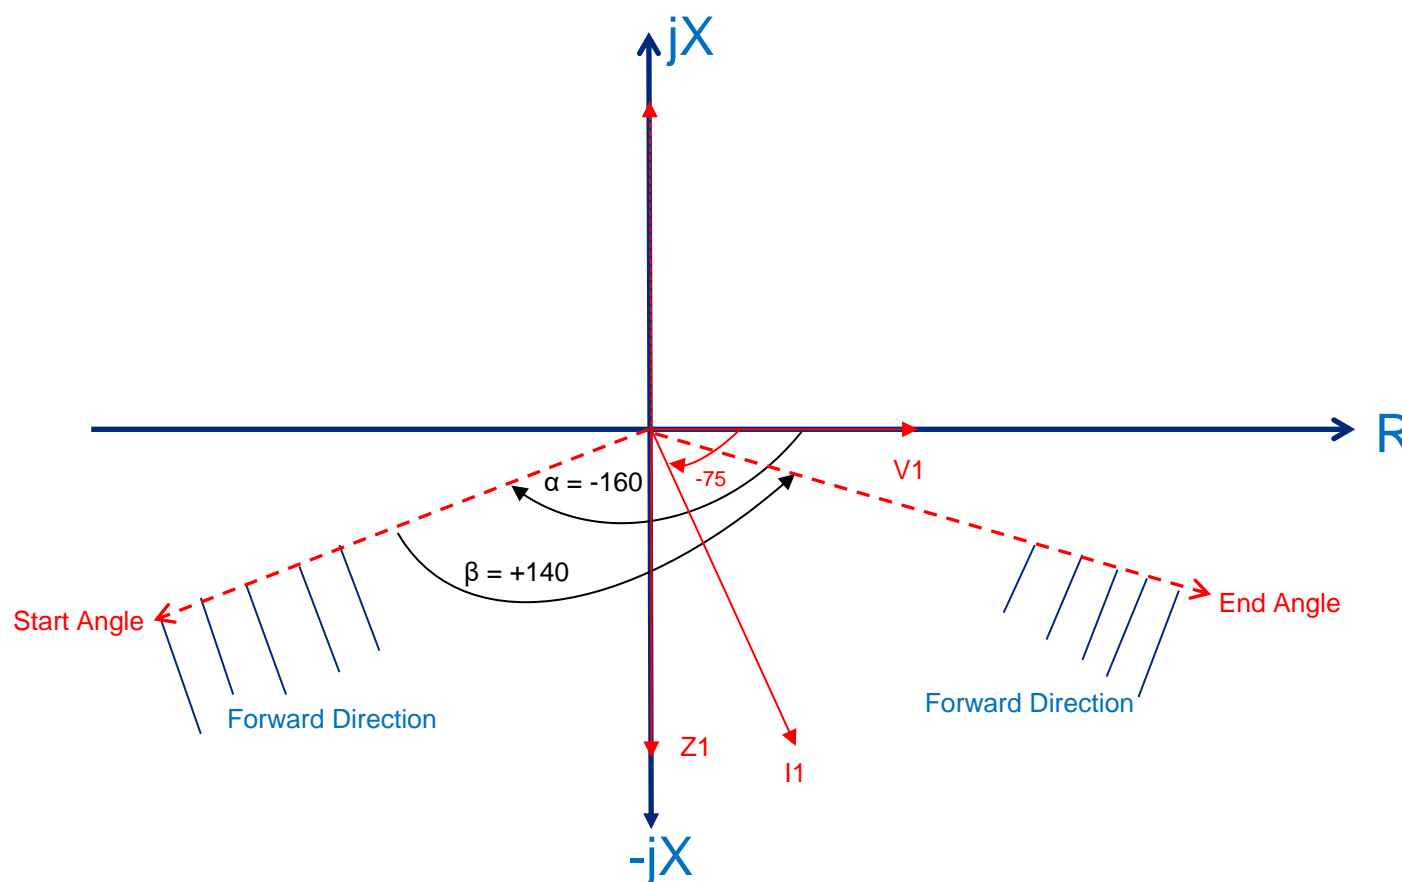

Figure 7
- Figure 7 shows Alpha set to  $-160^\circ$  and Beta to  $+140^\circ$  to get the forward impedance centered at  $90^\circ$